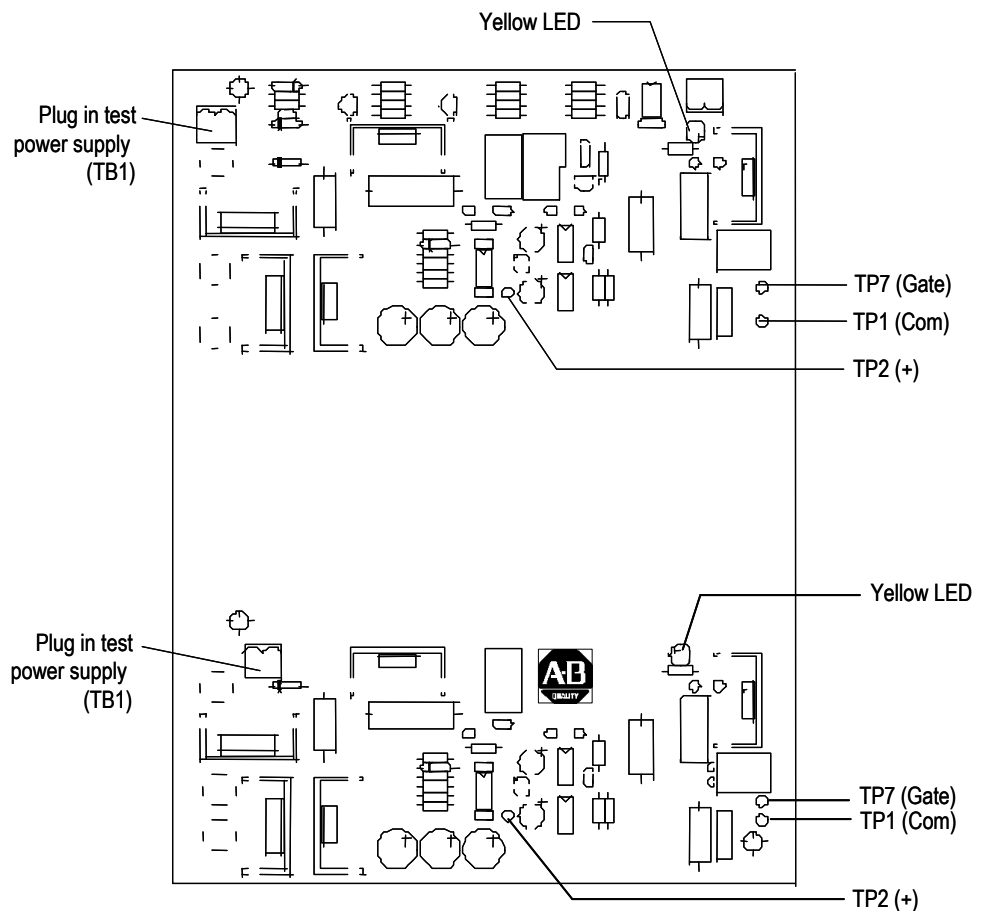
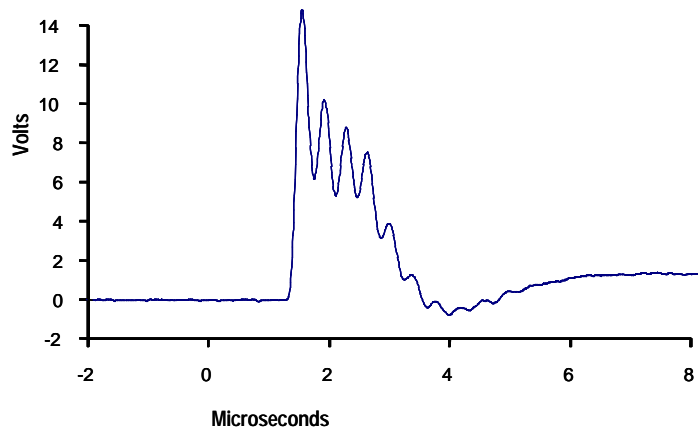

Figure 3.4 – Test Power Application on Gate Driver Board
Figure 3.5 – Gate Pulse Detail – Typical SCR (ABB)
- Since the gate driver circuits normally receive power from the snubber circuits when the SMC is operating, an alternate source must be used for testing. Locate the Portable Test Power Supply that was included with the equipment, and verify that the rating corresponds to the available power system (i.e. 110/120 VAC or 220/240 VAC). Plug the unit into the power source, and plug the green connector into **TB1** on each of the gate driver sections (See Figure 3.4).
7. The gate-driver board voltage may be checked by connecting a DC voltmeter to **TP2 (+)** and **TP1 (-)** (See Figure 3.4). With the specified power supply connected, the voltage should be 12 ± 2 VDC.
8. The actual gate pulse may be checked by connecting an oscilloscope between **TP7** and **TP1** (See Figure 3.4). The pulse should appear as shown in Figure 3.5.